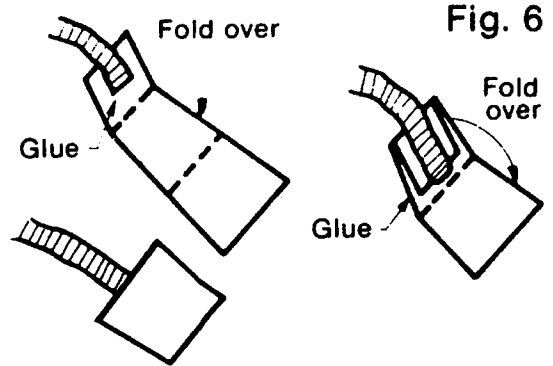

Fig. 6
- B Construct the Mount as shown in Fig. 6. Glue and fold the panels so that the shock cord folds up with it.